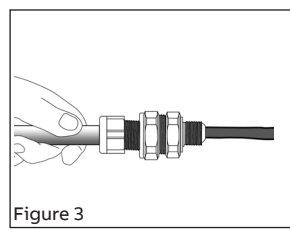

Figure 3
- Feed cable through gland nut opening and push until cable armor hits end stop (Figure 3).